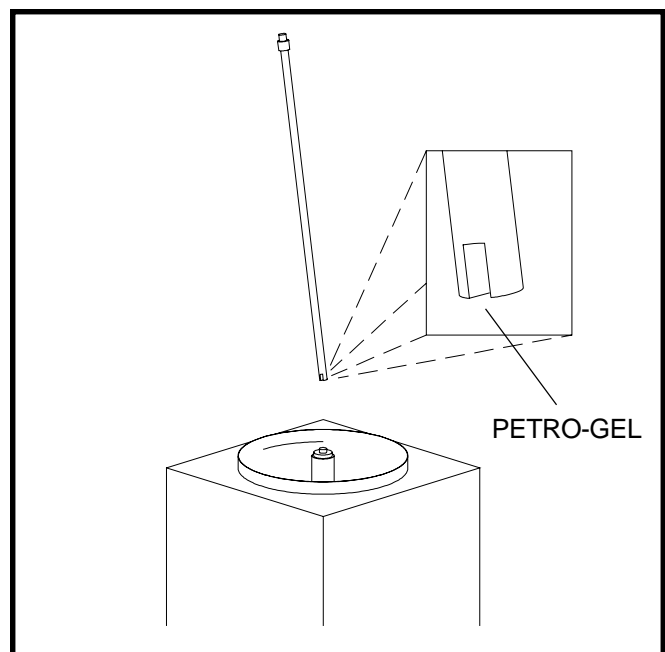

Figure 24. Lubricating Drive Shaft
- 1. Before installing the drive shaft, lubricate the bottom with Petro-Gel or any other type of sanitary lubricant. Enough lubricant must be applied to create approximately a 1/8 inch bulge at the bottom of the drive shaft (Fig.24).